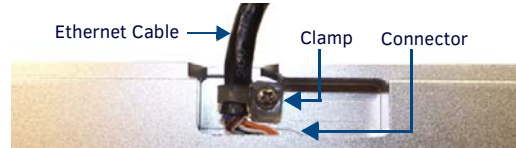

FIG. 3 BOTTOM OF THE MXT-700
In installations where you wish to conceal the Ethernet cable, a hole at least 1.00" (2.54 cm) in diameter is required in the surface to allow passage of the female RJ45 connector (FIG. 3).
2. Remove the clamp holding the Ethernet cable (FIG. 3).